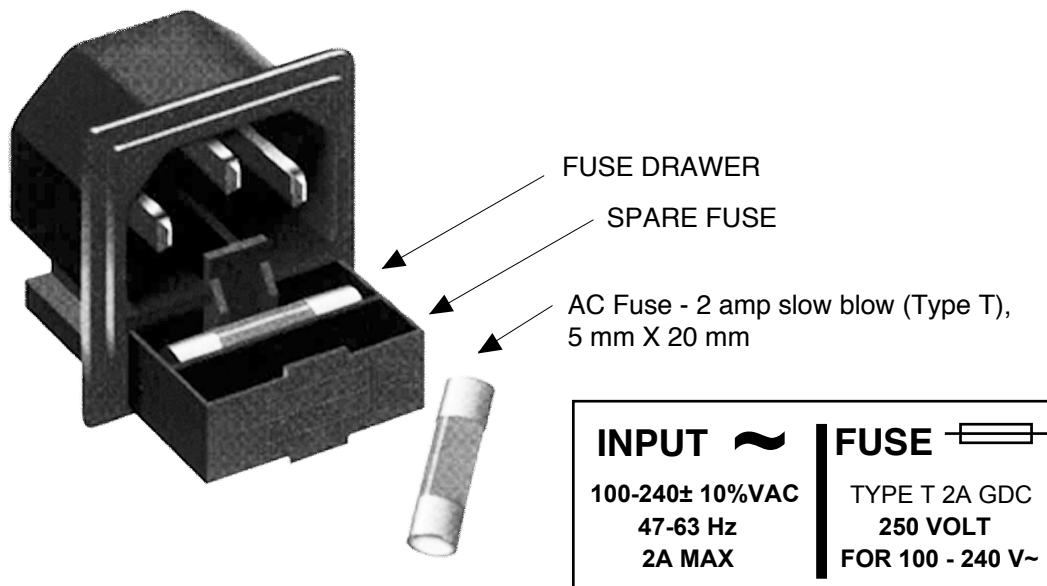

FIGURE 2.3 Fuse Location and Spare Fuse
- 8.) **AC Fuse** - The fuse is a 5 mm X 20 mm, 2 amp slow blow (Type T) and is inserted in the far slot in the drawer below the AC input as shown in Figure 2.3. There is a spare fuse in the near slot.